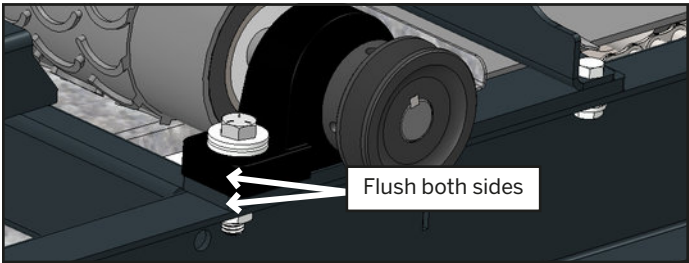

Figure 13.6.2
- Mount pillow block bearings at the edge of the welded support to ensure that the roller is square to the frame (Fig 13.6-2).